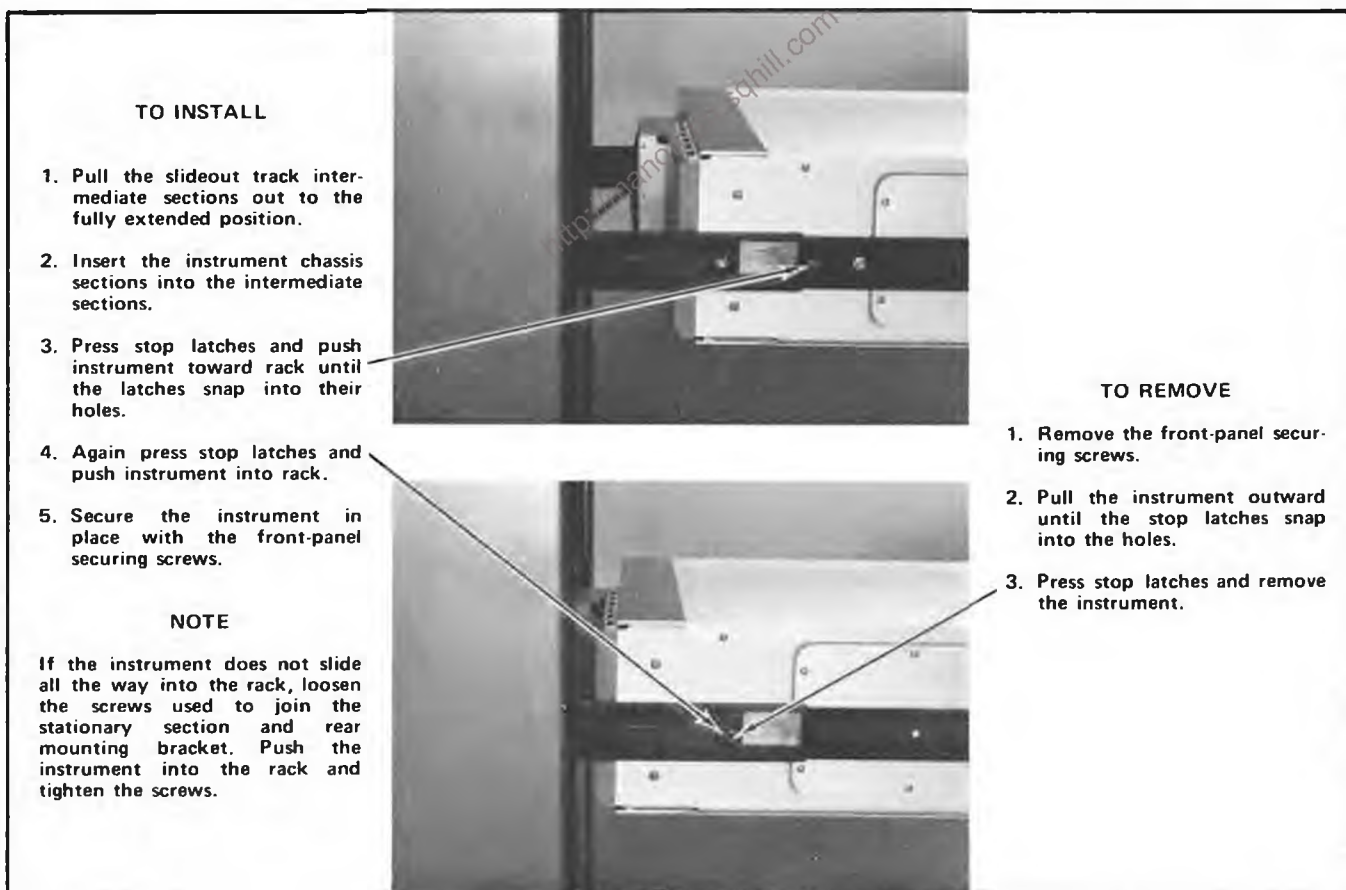

Fig. 6-4. Installing and removing the instrument after the tracks have been installed.
4. Refer to Fig. 6-4 to install the instrument into the rack.
following the instructions given in Fig. 6-4. No further adjustments are required under normal conditions.